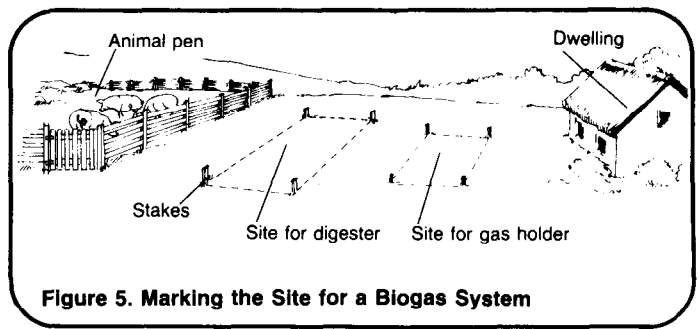

Figure 5. Marking the Site for a Biogas System
2. Using the location map and a measuring tape, locate the sites for the digesters and the gas holder and mark them with wooden stakes. See Figure 5.